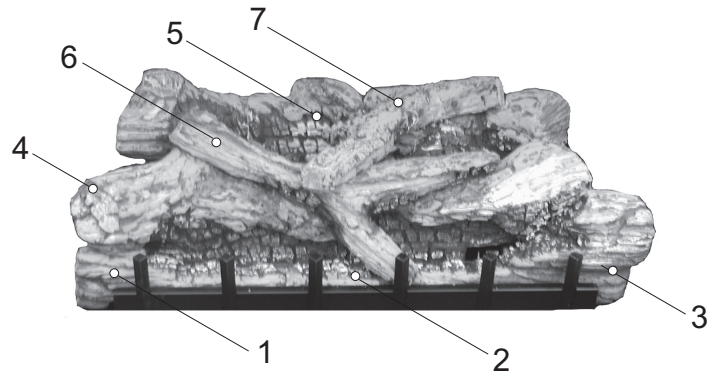
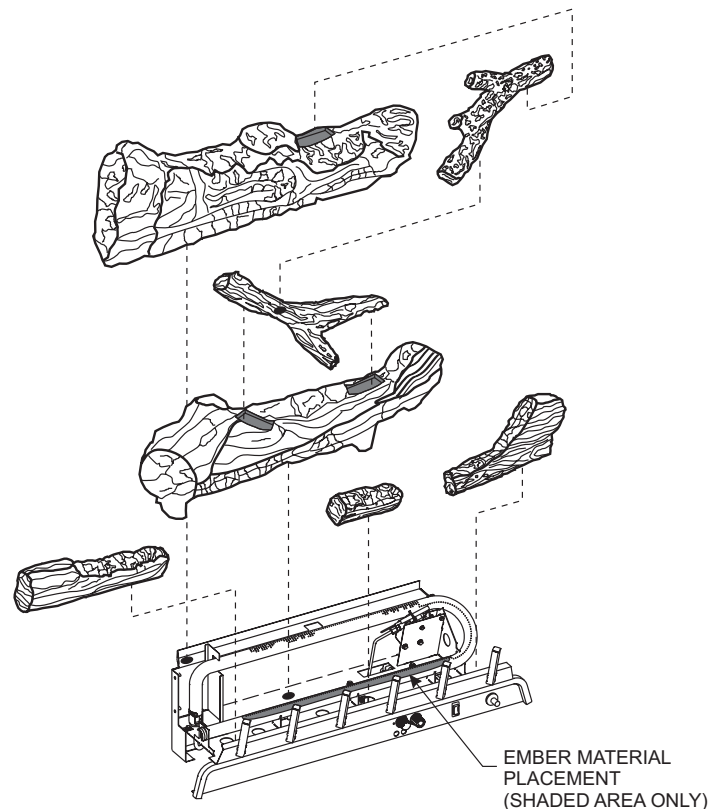

Figure 14
Figure 15
The positioning of logs is critical to safe and clean operation of this burner assembly. Sooting and other problems may result if the logs are not properly and firmly positioned on the burner assembly. Refer to **Figure 14** and **Figure 15** and corresponding **WARNING**: when completing following log placement steps.
6. After all logs are properly positioned, place small "dime" size pieces of Rockwool lightly across the front burner tube ports. Place the ember material (Rockwool pieces) side by side. Do not stack more than one layer of embers across the burner ports. No more than (1) one packet of ember material (part number 15999) evenly placed on the burner, is recommended on VFDR30 models. See **Figure 15**.
Attention: Do not use Figure 14 or Figure 15 to order logs. Refer to Parts Lists and Parts Views to order logs and/or ember material.